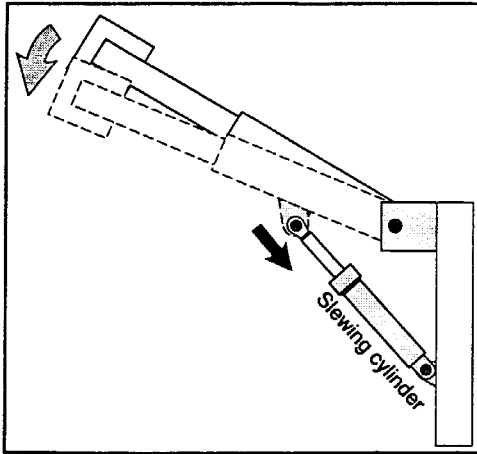

Figure 2. Outrigger slewing cylinder shown retracting. This should not happen when the shut-off valve is closed.
7. Put the outrigger handvalve into the RETRACT position, and bring the pads slightly off the ground. See Figure 2. If the outrigger slewing cylinder begins to retract, even with the shut-off valve closed, you have the problem and you can skip to step 10. If the slewing cylinder did not retract, center the outrigger handvalve, and close the shut-off valve for the jacking function. The pad should still be slightly off the ground.
10. Check both sides. If either valve has this problem, note the serial number of the unit (located on the driver's side of the unit, on the subframe) and immediately contact Schwing America's service department at (612) 429-0999. We will replace both holding valves if either one requires replacement.